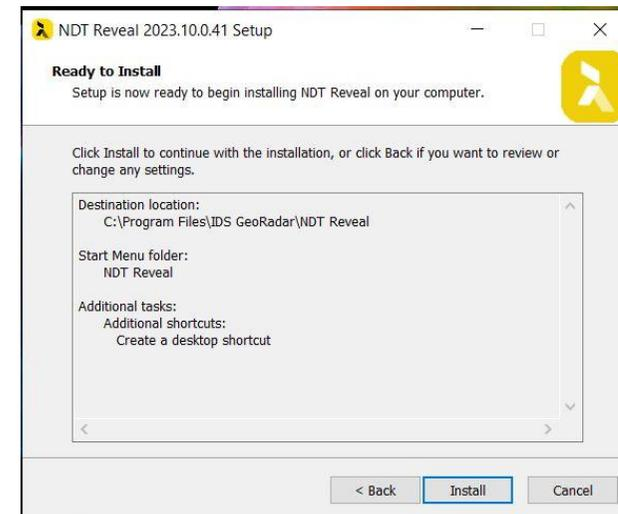

Fig. 6 Start Installation
6. Start Installation by pressing INSTALL (Fig. 6),